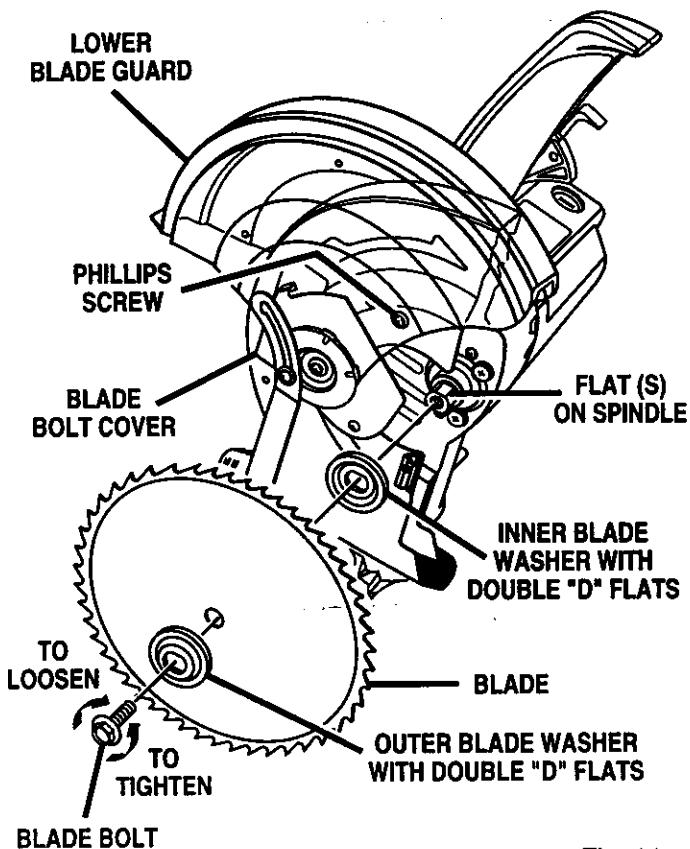

Fig. 11
- Fit saw blade inside lower blade guard and onto spindle. The blade teeth point downward at the front of saw as shown in figure 11.
- Retighten phillips screw securing blade bolt cover. Tighten screw securely. *See figure 11.*